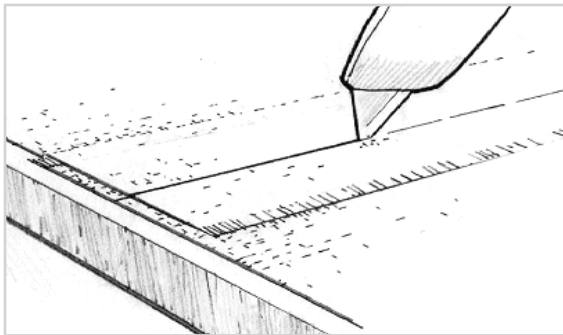

Figure 16-20 Trim overlapping fabric using a metal straightedge and a sharp utility knife, for a flush butt joint.
- b) Cut through both layers of cloth with a sharp utility knife (Figure 16-20).